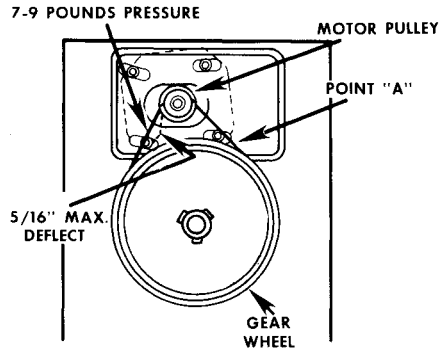

Figure 1 - Belt Adjustment Rubber Bushing Mounting
4. Check tension per Figure 1 and retighten the four nuts.